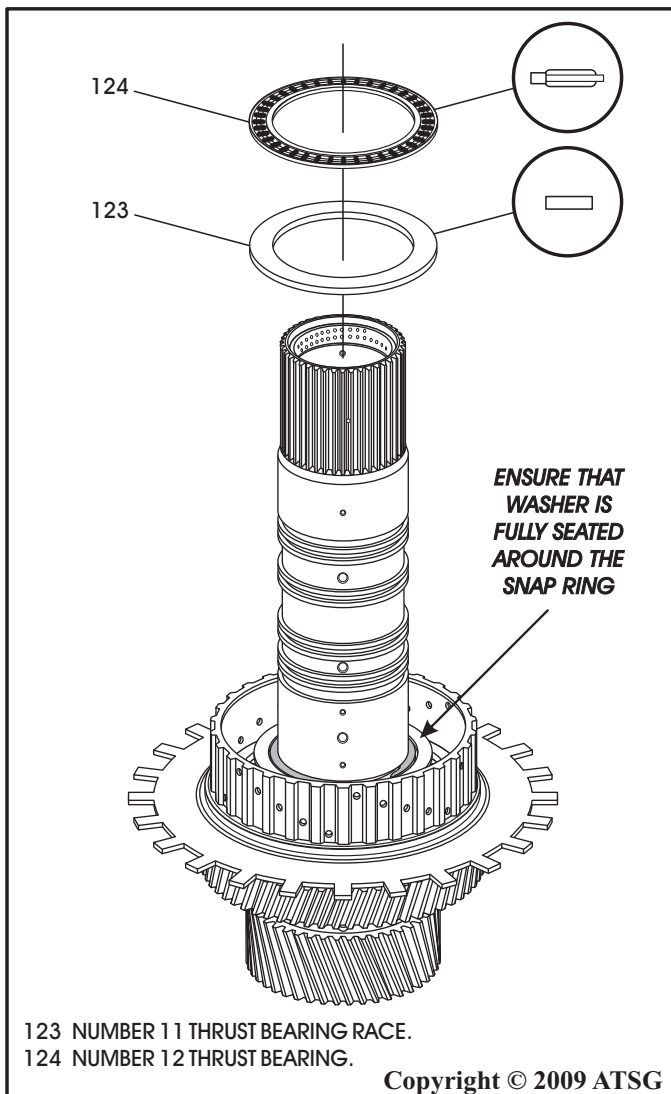

Figure 124
16. Ensure that snap ring retaining washer is fully seated around the outside diameter of the snap ring, as shown in Figure 124.
17. Install number 11 thrust bearing race, as shown in Figure 124, and retain with Trans-Jel®.
18. Install the number 12 thrust bearing, as shown in Figure 124, and retain with Trans-Jel®.